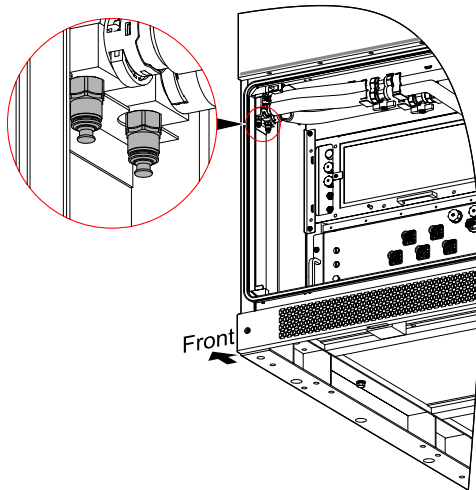

Figure7-9 Position diagram of exhaust port
Step 2 Take out the exhaust pipe, bend one end and fix it with tape or zip-tie (just don't pop it off), and insert the other end into the exhaust port (as shown in Figure7-9) directly, at this time, part of the coolant will enter into the pipe, then pull out the exhaust pipe in time. Pay attention to that you need to hold down the exhaust port and pull out the air pipe (while pulling out the exhaust pipe, release exhaust